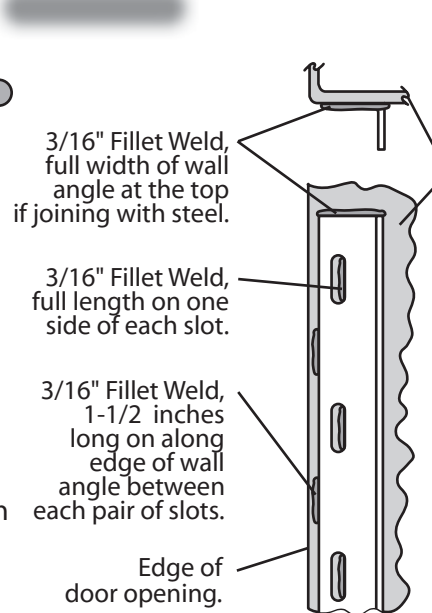

FIG 4B
- Hold E-Guide wall angle against the jamb and tack weld in place. Install second wall angle at "G" ("S" + 1/2") (**FIG 3C**) distance. Check for level and plumb. Apply welds as shown in **FIG 4B**, using welding electrodes E6010, E6011 or E7014.